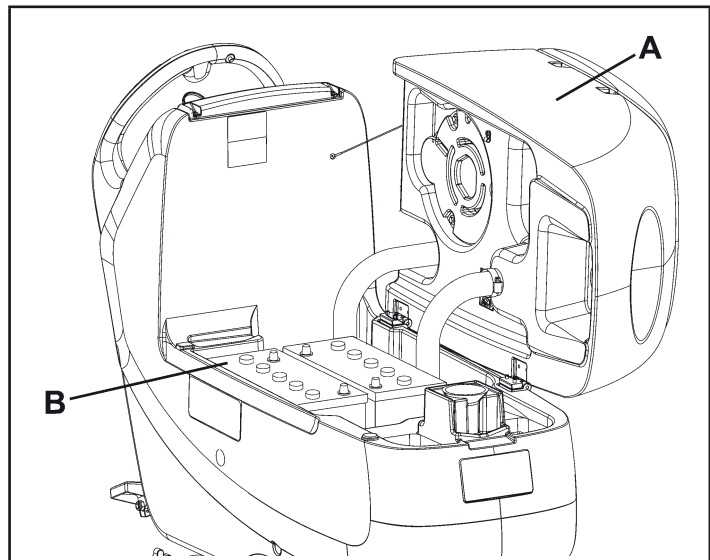

Figure 8
- Open the cover (I) and check that the recovery water tank (J) is empty, otherwise empty it with the drain hose (K).
- Carefully lift the tank (A, Fig. 8).
- Install the batteries (B).